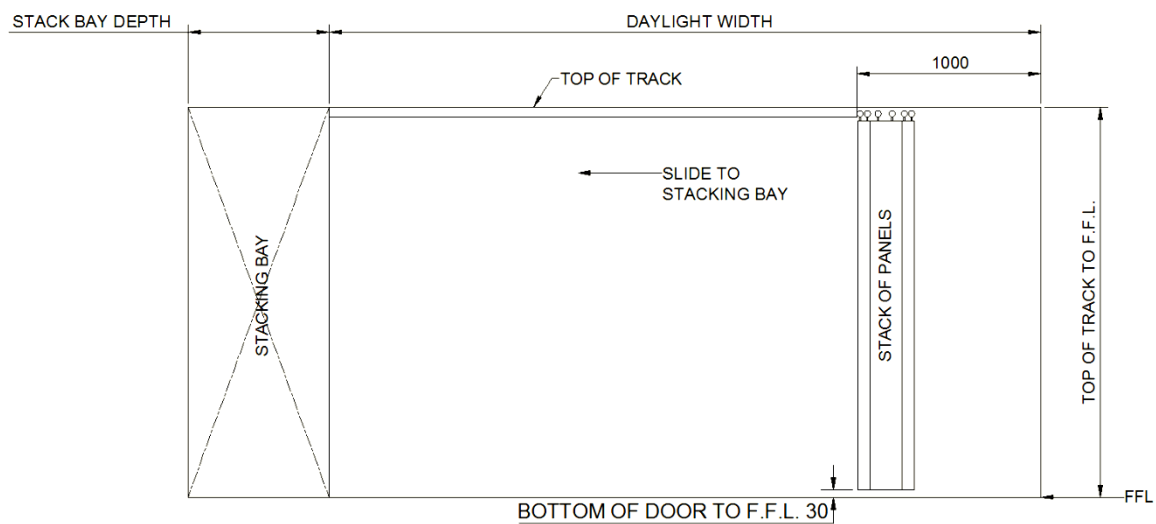

Figure 3
- Leave at least 1.0 meter to slide the panels in/out (Fig.3)?????